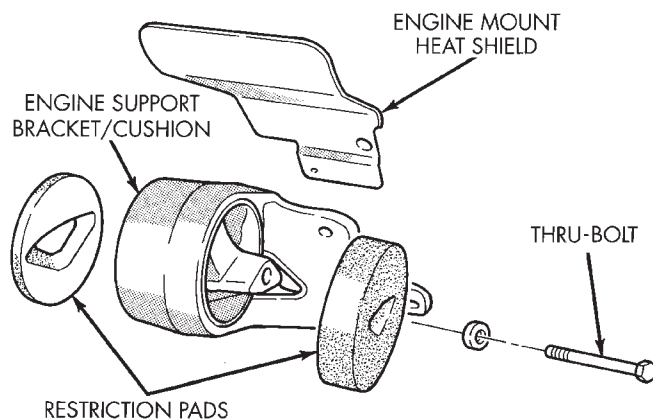

Fig. 13 Engine Front Mounts
- (3) Install engine support/lifting fixture.
- (4) Raise vehicle on hoist.
- (5) Lift the engine SLIGHTLY and remove the thru-bolt and nut (Fig. 13).
- (6) Remove engine support bracket/cushion bolts (Fig. 13). Remove the support bracket/cushion and heat shields.